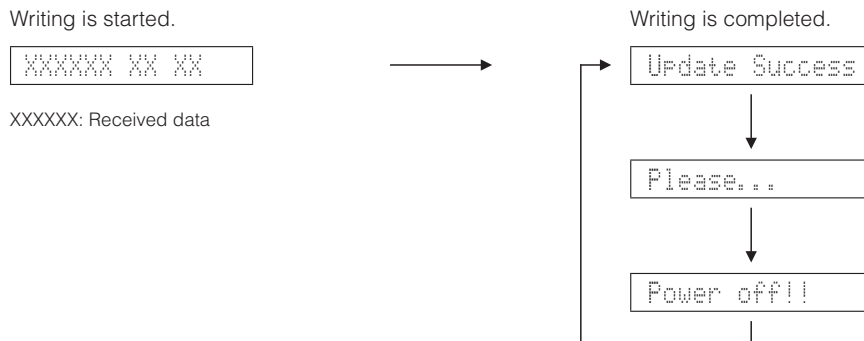

Fig. 3
Then writing of the firmware is started. (Fig. 3)
7. When writing of the firmware is completed, “Update Success”, “Please...” and “Power off!!” are displayed repeatedly. (Fig. 3)